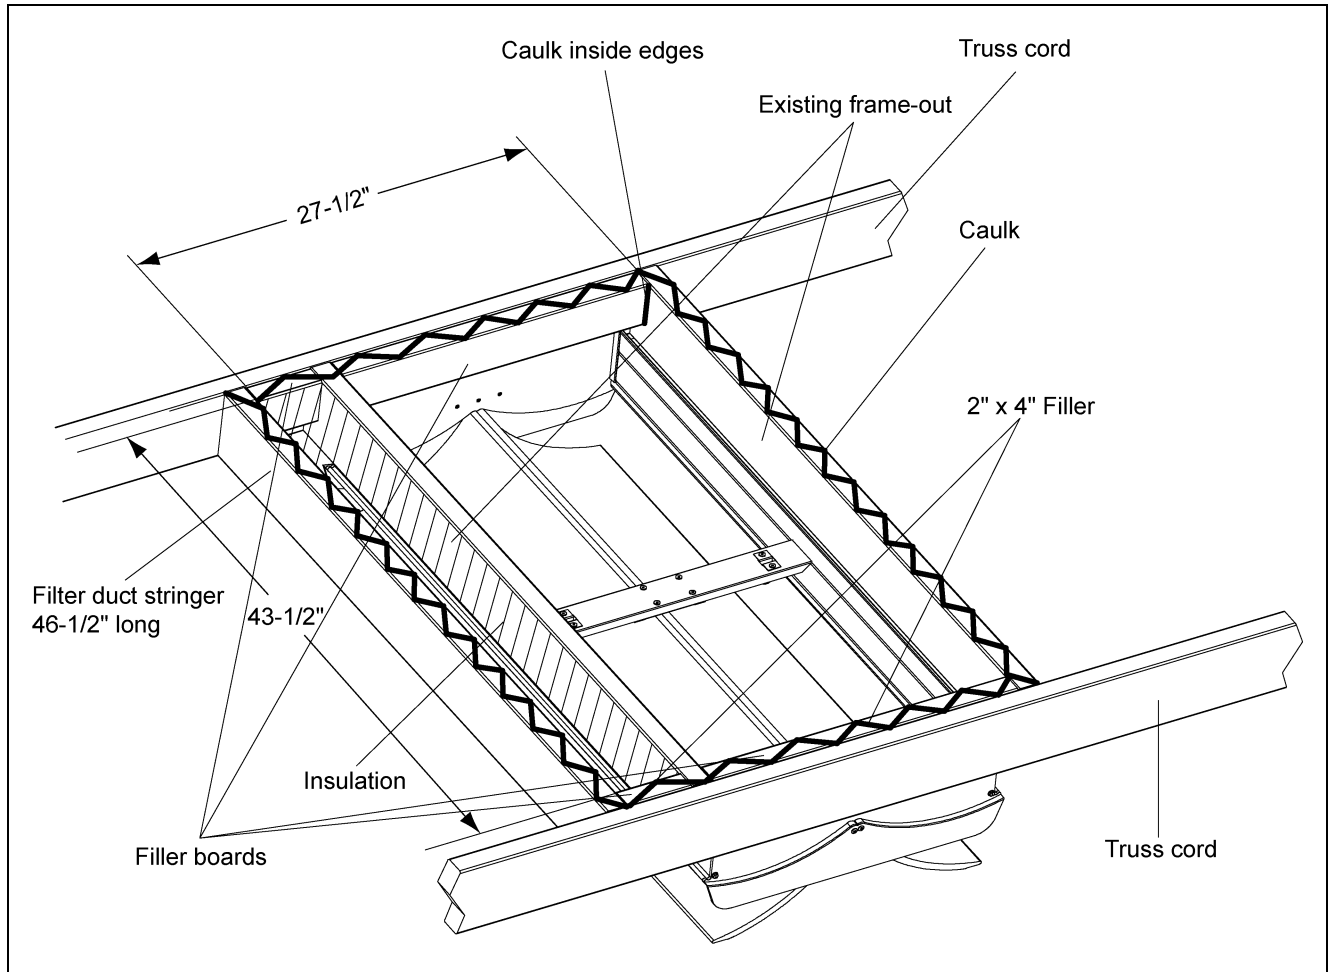

Figure 1A
1. Seal all inside edges of the wood frame-out with silicon caulk and apply an ample amount of silicon caulk around the top side of the filter duct frame-out. (*See Figure 1A on Page 4.*)